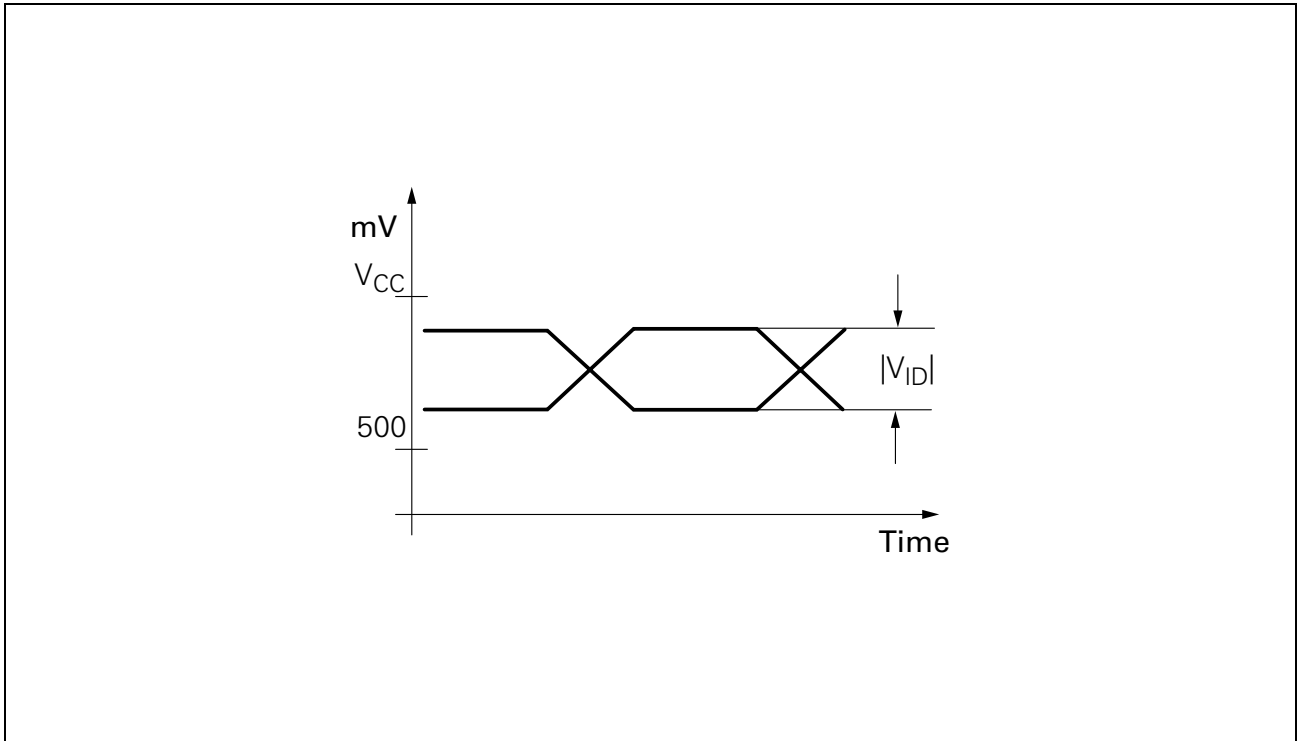

Figure 5 Input Level Diagram
- ⁴⁾ Input level diagram: see **Figure 5**.